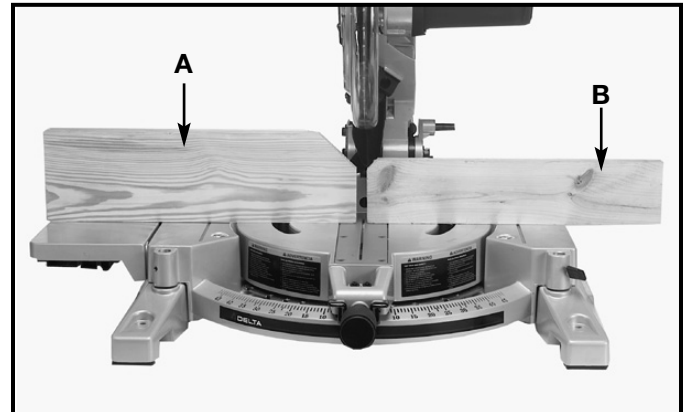

Fig. 31
Holes are provided in the fence to attach an auxiliary fence (A) and (B) Fig. 31. This auxiliary fence is constructed of straight wood approximately 1/2" thick by 3" high by 16 inches long as shown at (B); and 1/2" thick by 5" high by 17" long (A) Fig. 31.